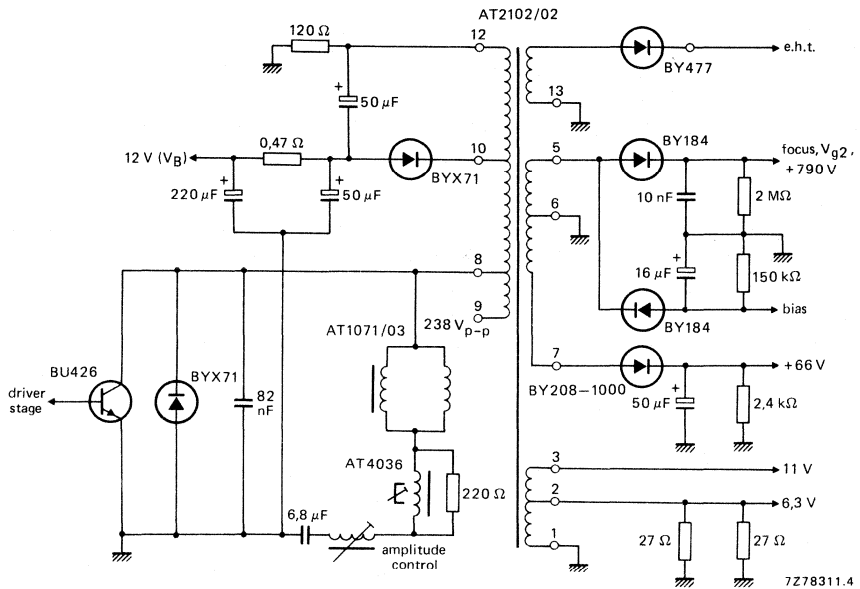

Fig. 3 Application circuit for use with deflection units AT1071/03 and AT1071/07.
**ELECTRICAL DATA** (see also Figs 3 and 4)